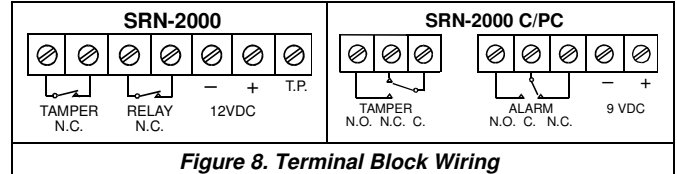

Figure 8. Terminal Block Wiring
- D. Connect wires to the terminal block in the following order. (Refer to Figure 8).
The test point T.P. terminal provides a good means for analyzing the sensor in the event of an environmental problem or suspicion of a faulty sensor. Using a DC voltmeter (20 k ohms per volt), connect its positive lead to the T.P. terminal and the negative lead to the (-) 12 VDC terminal. See Fig. 8.